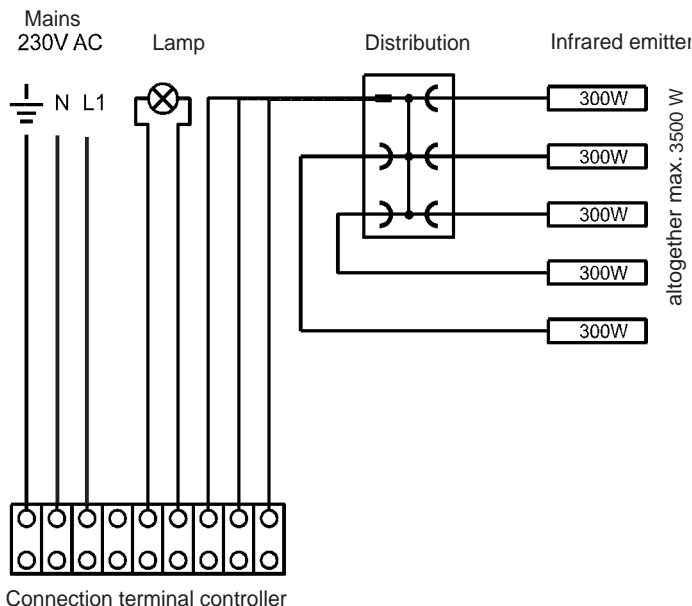

Fig. 5
- The 3-core mains supply lead is fed to the controller and connected, as is evident from Fig. 5. A connection plan is posted in the area of the connection terminals.